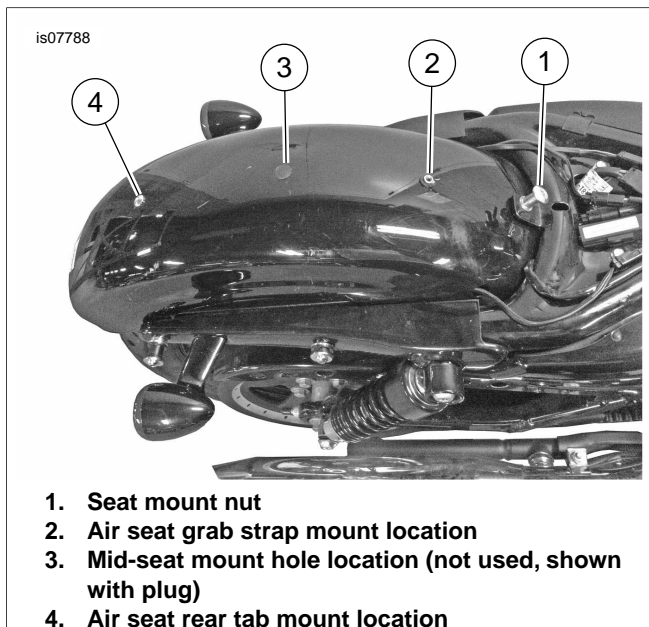

Figure 1. Sportster Rear Fender Configuration
2. See Figure 1. If there is **NO seat retention nut** at the forward seat-mount location (2), install the seat retention nut from the Seat Nut Kit (Figure 9, Item 7).
3. See Figure 1. **Chopped-fender Sportster models (like 883L, 883N, 1200N, 1200V 1200X)** have a threaded hole at the rear seat mount location (4), and require a nylon step washer (Figure 9, Item 10) to protect the fender when the seat is installed.
If the retention nut from the Seat Nut Kit was installed earlier, remove the mid-fender location (Figure 1, Item 3) retention nut already installed on the vehicle.
4. See Figure 1. At the forward hole location (2), thread the hex screw into the retention nut finger-tight.